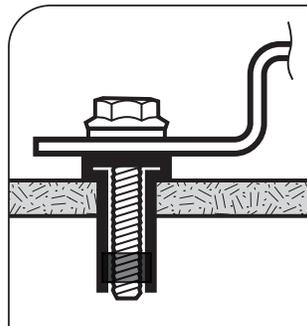

Fig. 3.6. The 5-hole mounting bracket is placed against the flange of the Well-Nut and is secured by the bolt engaging the captive brass nut.
12. Fasten the mounting brackets to the roof surface by inserting the ¼ x 1¼" serrated flange bolt into the Well-Nut (Fig. 3.6). Tighten using a 3/8" wrench to a recommended torque of 15 lbs. When the serrated flange bolt is screwed into the Well-Nut, the material surrounding the well nut bulges slightly securing the structure to the RV roof (Fig. 3.7 & 3.8).